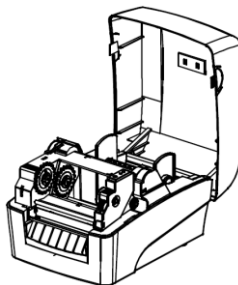
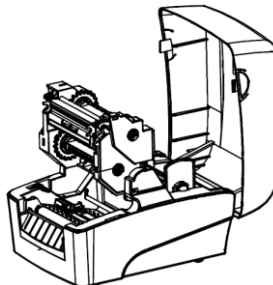

Figure 2.2.2
Figure 2.2.3
- 2) Press the cover open lever in the direction of arrow (see figure 2.2.2). After the ribbon holder is uplifted, turn it upwards to the angle as shown in the figure (see figure 2.2.3);